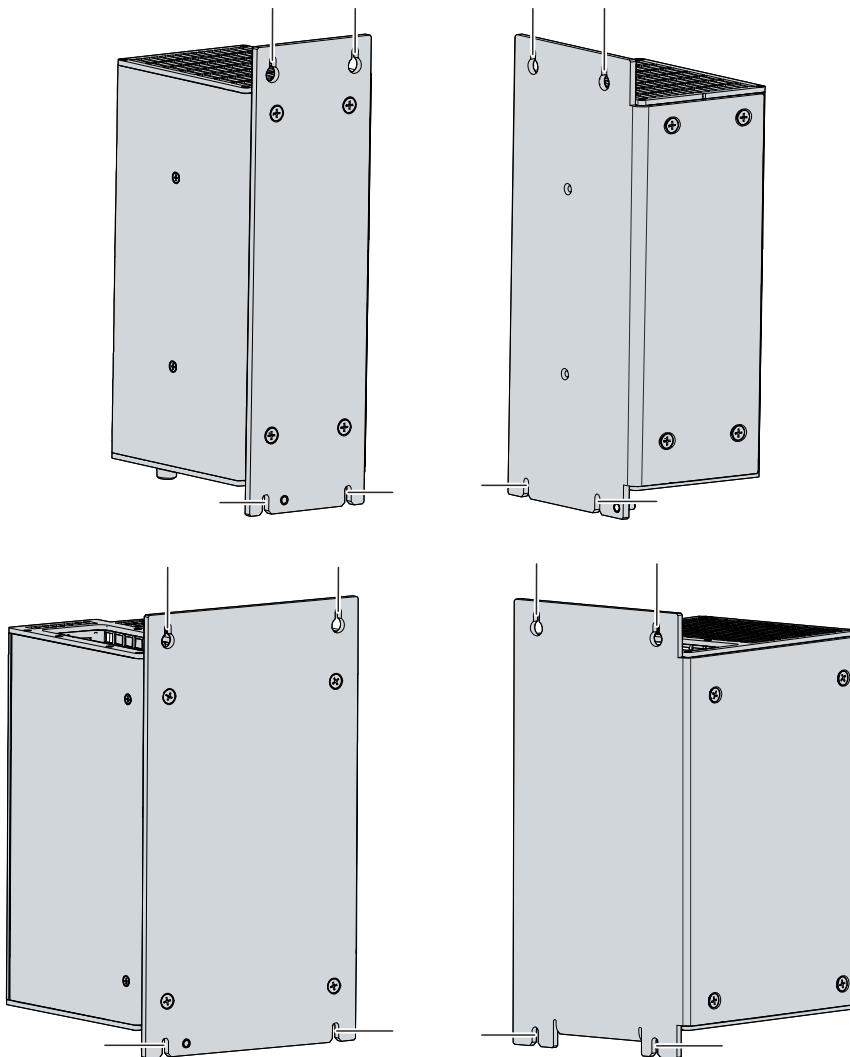

Fig. 17: C6930\_Control cabinet installation
2. Hang the PC on the screws at the marked places on the mounting plate (see fig. 17).